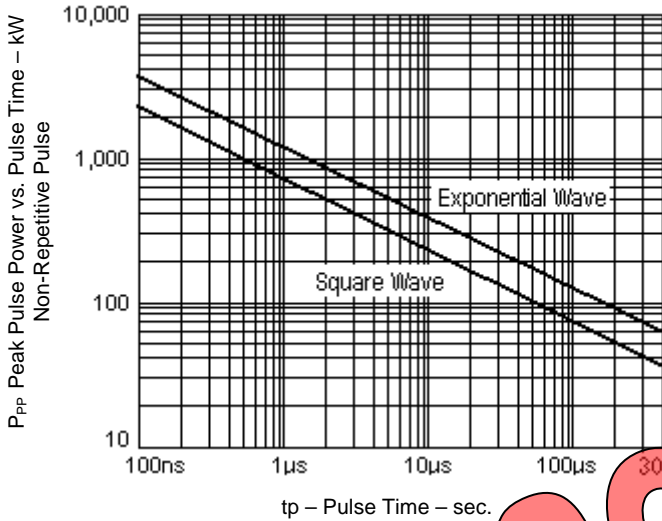

FIGURE 1
NOTE: The 1MHz damped oscillatory waveform (3) has an effective pulse width of 4 μ s. Equivalent peak pulse power for the 200KP295CVCL and 200KP295CA at each of the pulse widths represented in RTCA/DO-160D for wave forms 3, 4 and 5a (above) have been determined referencing Figure 1 herein as well as Application Notes 104 and 120 (found on Microsemi's website) and are listed below.